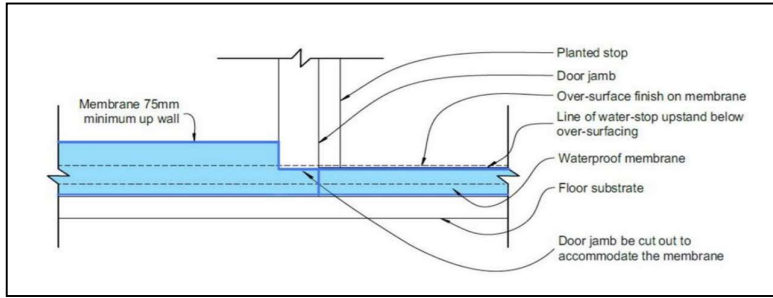

Figure 19: Elevation/edge of door jamb with water-stop under door
- ✓ Figure 19: Elevation/edge of door jamb with water-stop under door